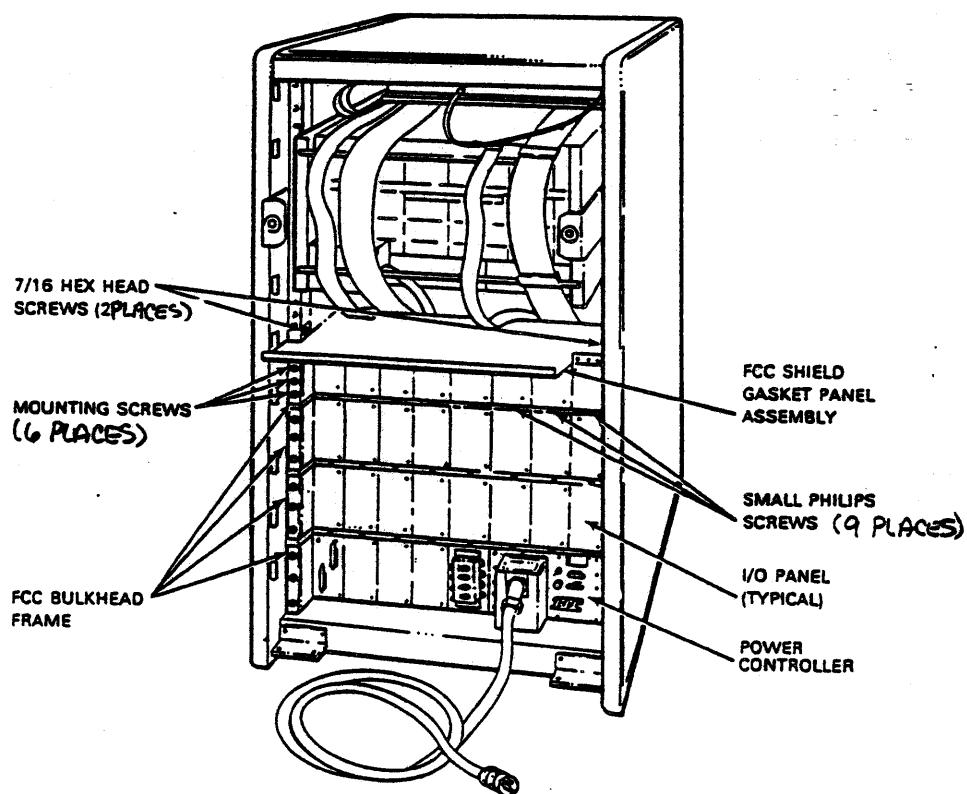

Figure 2-2 Typical H9642-FC/FD Shielded Cabinet before H3014 Installation
2. Remove the FCC Shield Gasket Panel Assembly (Figure 2-2) by removing the following:
The FCC Bulkhead Frames must be removed from below the FCC Shield Gasket Panel Assembly down to the location where the H3014 is to be mounted. These Bulkhead Frames must be removed from the top most frame to the bottom most frame. (See Figures 2-2 and 2-3.)
3. Remove the nine (9) phillips screws (Figure 2-2) that secure FCC Bulkhead Frames together.
4. Remove the six (6) mounting phillips screws (Figure 2-2) that secure the FCC Bulkhead Frames to the vertical mounting rails of the cabinet.